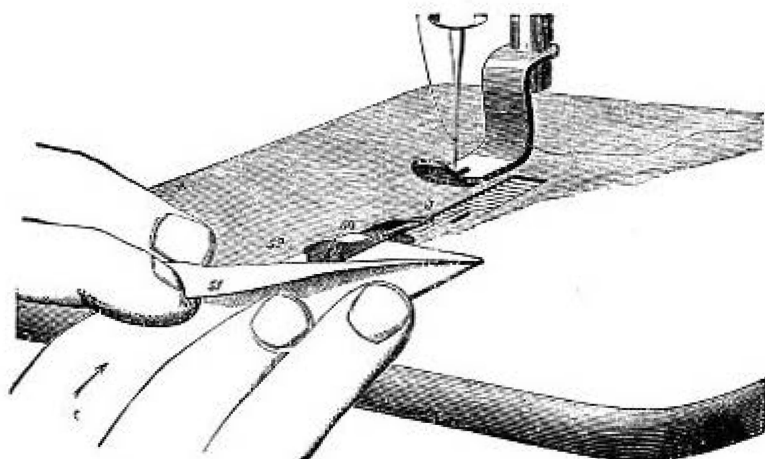

Fig. 20.—Beginning a Wide Hem.
The edge to be hemmed should be cut instead of torn; for if the edge is stretched through being torn, or otherwise, the material where the seam is sewn must be stretched to an equal length. The material must be folded down evenly, and distinctly creased a little wider than the width of hem desired. The edge is then placed in the **Hemmer** (Fig. 20), fold (50) entering under the upper blade (1), and fold (51) passing over it. The edge of the material is kept up against the turn of the blade at (52) during the process of stitching the hem. This is generally done by the aid of the guide, which serves to guide the work, and hold the edge in the **Hemmer**.